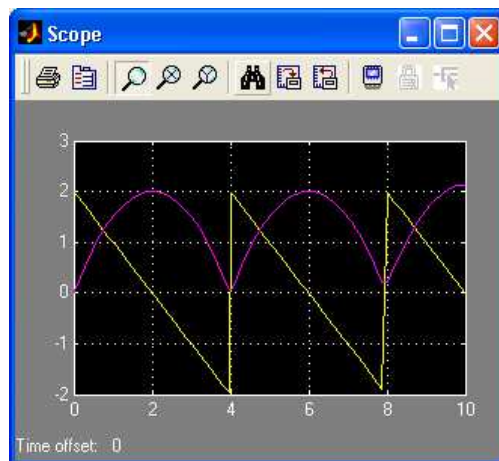

Figure 33: Results of integration of a sawtooth.
3. With a sawtooth input with amplitude of 2 and frequency of 0.25 Hz and run the simulation from  $t = 0.0$  to  $t = 10.0$  seconds. You should obtain the plot shown in Fig. 33.